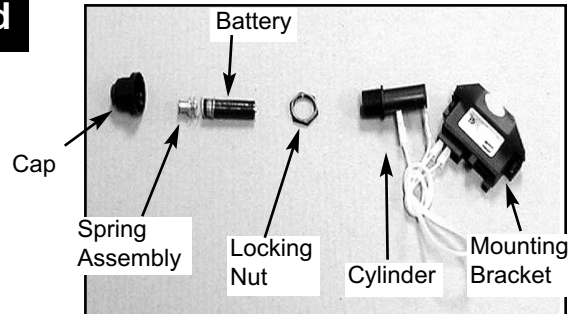

Fig. 1
1. Remove the ignitor cap, spring assembly, battery and lock nut from ignitor. (See Fig. 1)